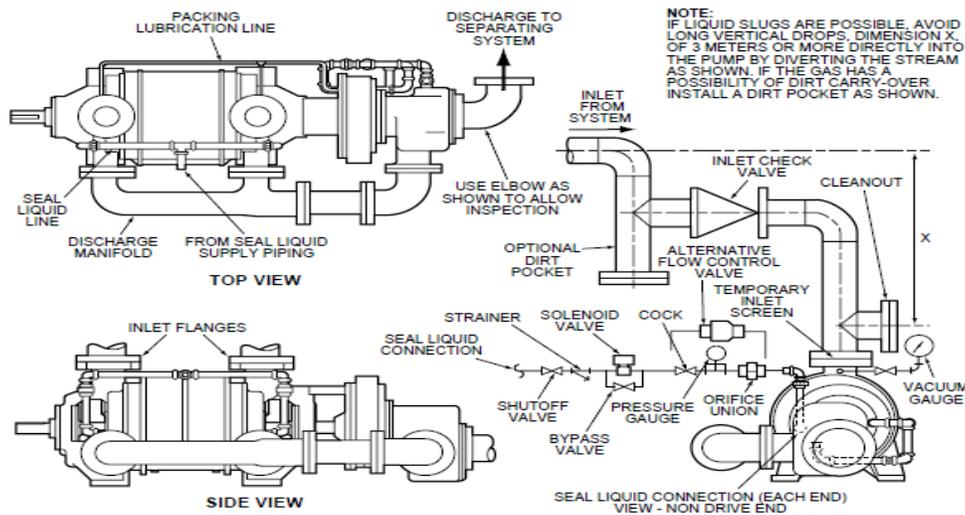

Figure 2.1. Typical Piping Connections
d. Operation under both low and high vacuum conditions is depicted in Figure 1.3. To ensure proper functioning and seal clearances between the cone and rotor, a liquid compressant (seal liquid) is introduced into the vacuum pump. This seal liquid is applied at the first stage heads, as illustrated in Figure 2.1, and travels through a passage in the heads to reach the cones. It then flows through the clearance between the cones and rotor into the rotor chamber. The seal liquid, along with the evacuated gas, is discharged into the second stage discharge manifold.
a. INLET PIPING (refer to Figure 2.1):
b. STRAINER (refer to Figures 2.1 and 2.3):
c. INLET SCREENS (refer to Figure 2.1):
d. CHECK VALVES (refer to Figure 2.1):
- d. Install a proper cleanout or removable piping section ahead of the pump inlet to facilitate the cleaning of inlet screens before their removal. Refer to Section 2.1 and Figure 2.1.
e. Use dirt pockets as an inexpensive form of insurance to protect the pump from the entry of pipe scale, welding shot, and foreign material present in the inlet piping. Refer to Section 2-1 and Figure 2-1.
h. Flush seal liquid piping to remove any foreign matter before connecting it to the pump. The piping should be full size to the pump connection and properly supported to avoid strain in the piping and pump connection. Install a strainer in the seal liquid piping to prevent rust and scale from entering the pump, refer to Section 2-1b and Figure 2-1. By incorporating an isolating valve, a strainer, and an adjusting valve or cock in that order, the strainer may be isolated to enable cleaning out when the pump is not operating.